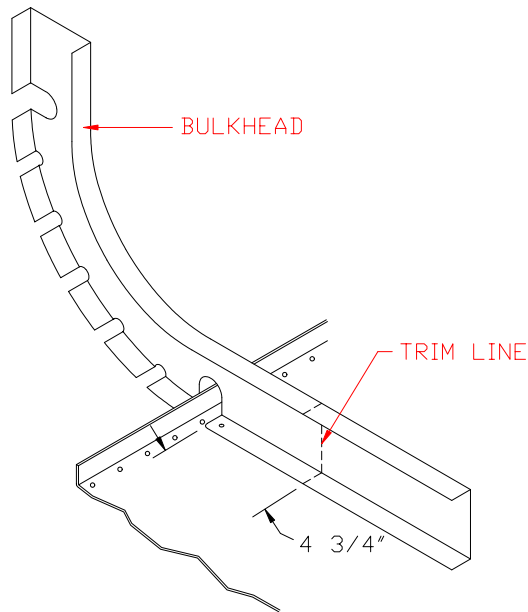

Figure 9.1.7
11) The two bulkheads at position “E” will require trimming to allow the legs to sit flat. Figure 9.1.7. **NOTE:** Only the legs against the skin should be trimmed.